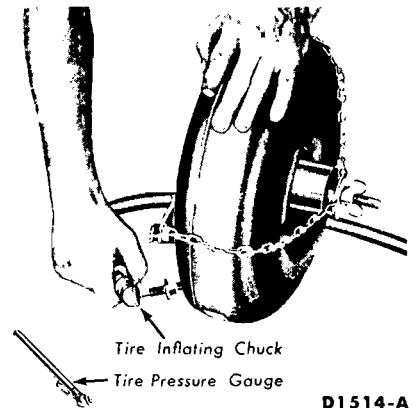

FIG. 3—Typical Converter Leak Checking Tool
1. Install the plug in the converter (Fig. 3) and expand it by tightening the wing nut. Attach the safety chains.